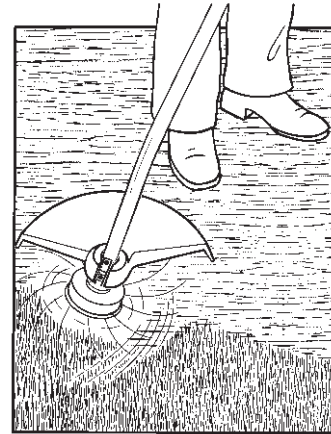

Fig. 6
2. **CLOSER TRIMMING** (Figure 6). Position trimmer straight ahead with a slight tilt so bottom of stringhead is above ground level and string contact occurs at proper cutting point. Always cut away from operator. Do not pull trimmer in toward operator.